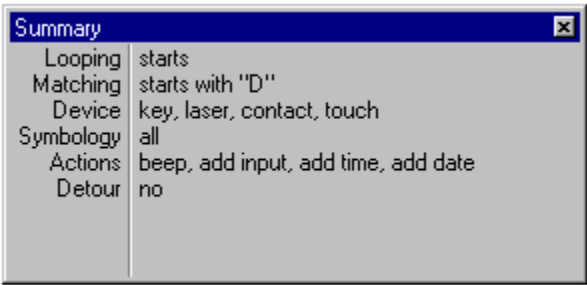

Figure 3-44 Summary Window - “Location” Handler
38. The **Summary** window for the “Location” Handler is shown in Figure 3-44.